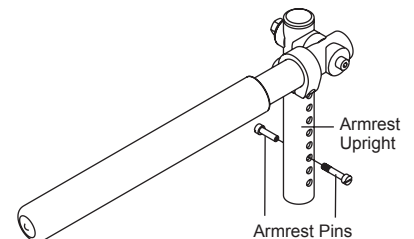

Figure 47
1. Remove both armrest pins from the armrest upright. See Figure 47.